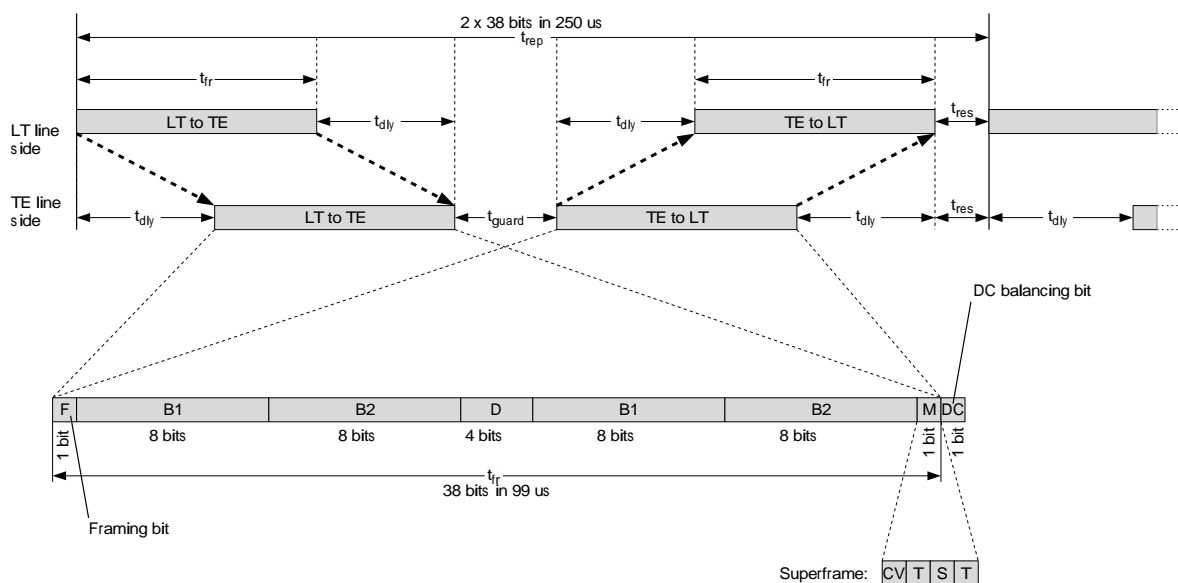

Figure 5.10:  $U_p$  interface frame structure
The  $U_p$  frame structure has a length of 250  $\mu$ s. Within this period, a transmit phase and a receive phase with 99  $\mu$ s length each is placed as shown in Figure 5.10. The 38 bit frame has the same structure for LT-to-TE and TE-to-LT transmissions.
There is a higher frame structure called *superframe* (also called *M-channel*). A superframe has the length of 4 bits and consists of the bits CV, T and S as shown in Figure 5.10 and Table 5.8. As there is one superframe bit within every frame, a complete superframe is transmitted and received every 1 ms.
**Table 5.7:** Legend for Figure 5.10